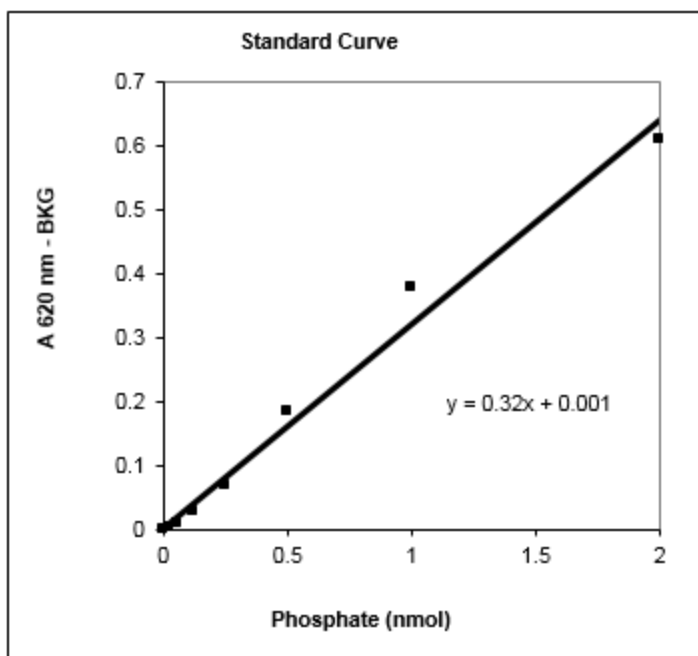

Figure 1. BIOMOL[®] Green Phosphate Standard Curve
1. Plot standard curve data as OD_{620nm} versus nmol PO₄ (Note that a background OD_{620nm} value for 0 nmol PO₄ has been subtracted from all data. See Figure 1. Data may also be plotted without subtracting the background. In that case, however, one should also not subtract background from experimental OD_{620nm} values before using the standard curve to convert them to nmol of PO₄).